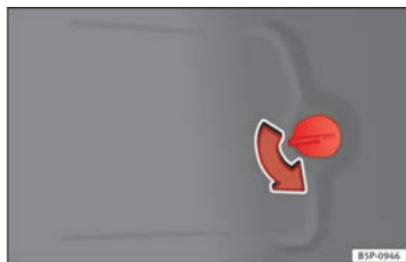

Fig. 195 Lights on vehicle body.
- Open the cover of the luggage compartment side panel ⇒ Fig. 195.